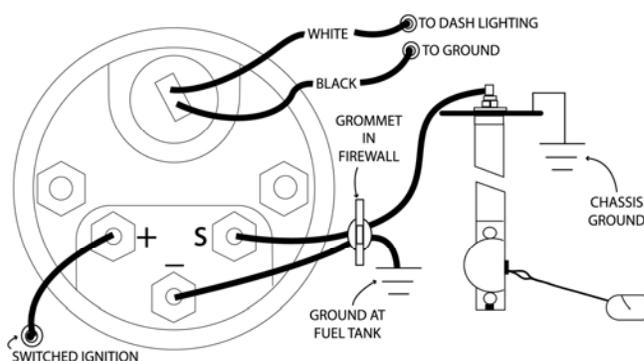

Figure 4
**FUEL LEVEL GAUGE WIRING (Figure 4):**
4. Using 18-gauge wire, connect the (S) sender terminal of the gauge to the fuel level sender.
5. Connect one (1) of the light wires (WHITE) to the dash lighting circuit or to a +12V switched circuit.